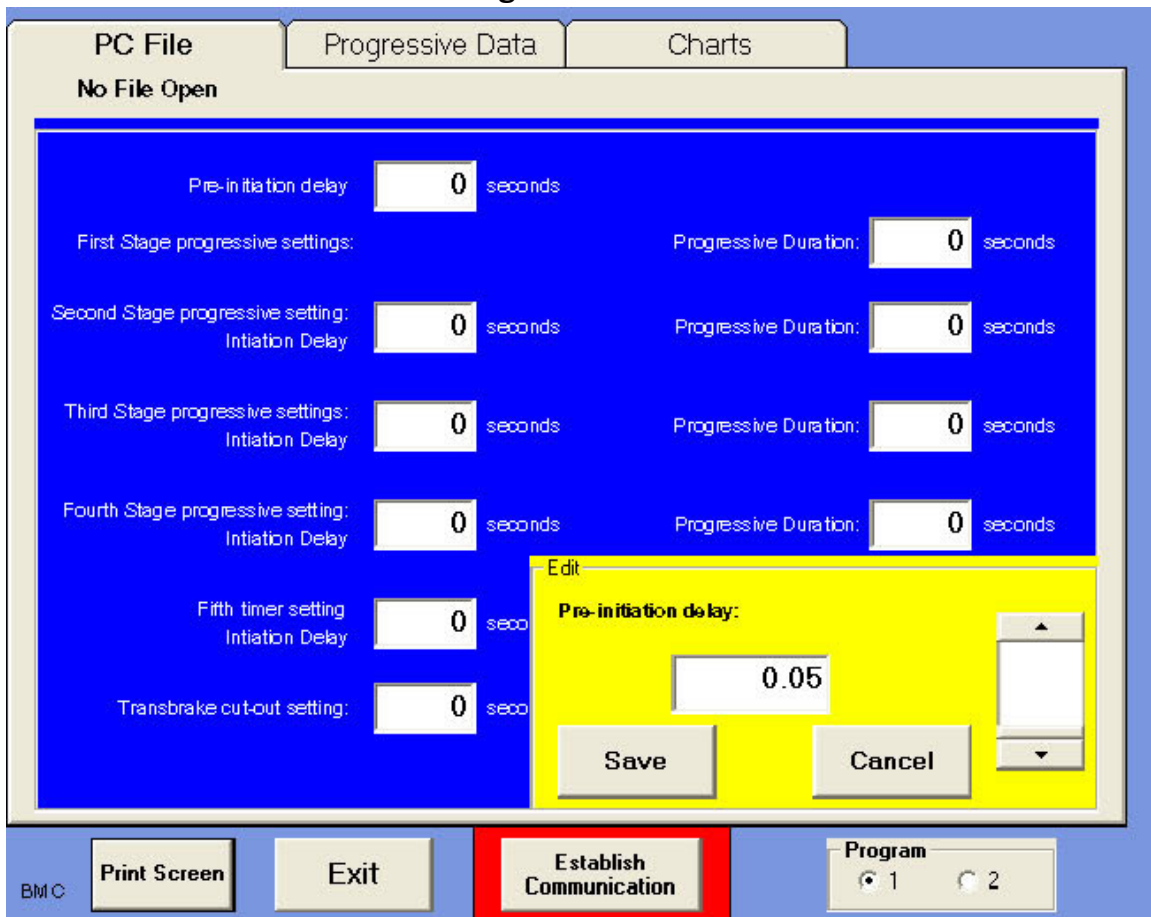

Figure 3.
7. The Progressive Timer/Controller values are displayed. Setting each value is done by clicking on the value then adjusting the slider screen as shown in *figure 3*. The value will have a yellow background until the program is saved to the computer or progressive.